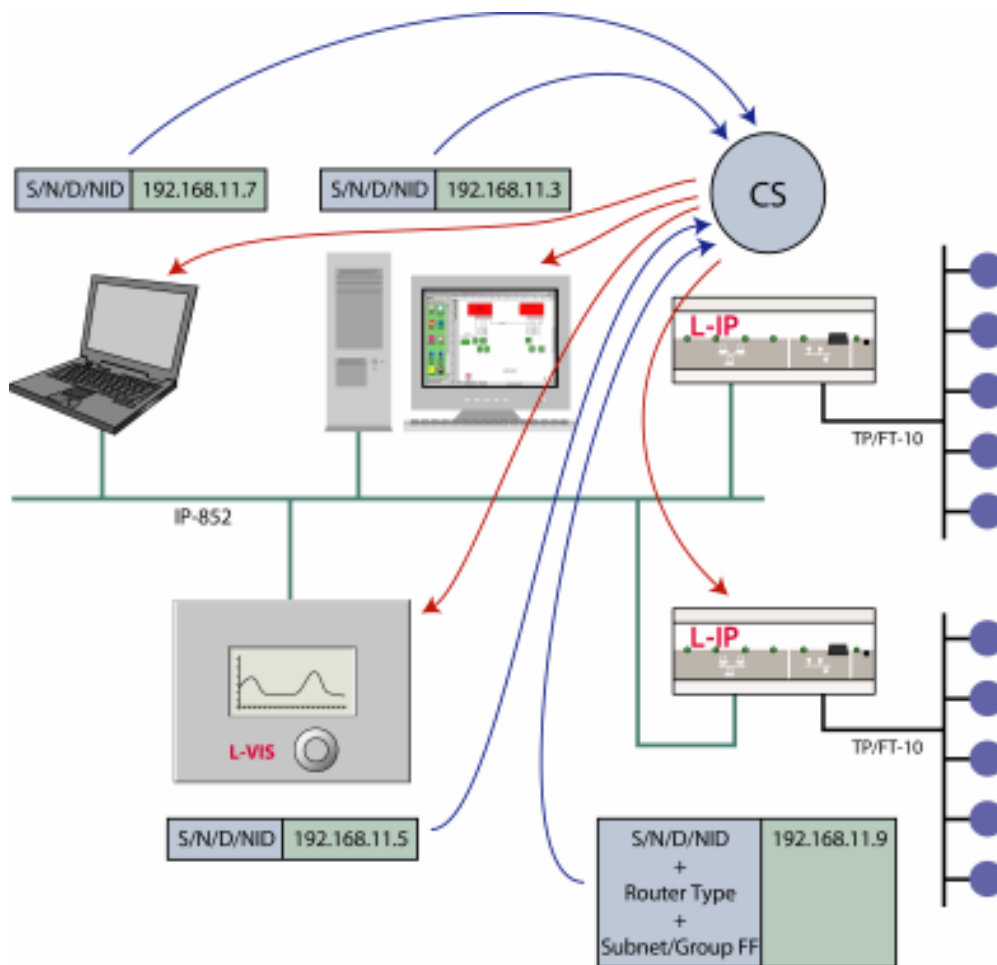

Figure 8: Configuration server for IP-852 channels
IP-852 channels require a configuration server to build the channel. L-IP devices have a built-in configuration server. The server must be activated on exactly one L-IP per IP-852 channel. The IP addresses of all channel members have to be added to the channel member list in the configuration server. The configuration server (CS) manages the mapping between the domain/subnet/node and group addresses and the IP addresses of the channel member devices. Whenever the network configuration is changed, the channel member device sends a configuration update message to the configuration server (see blue arrow in Figure 8). The configuration server forwards the update packet to all channel members (see red arrow in Figure 8). A single L-IP configuration server can handle up to 256 channel member devices whereas the channel members can be configured in different domains.